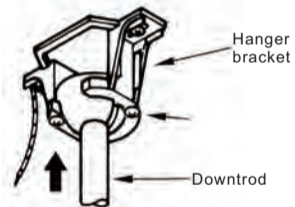

Fig.15
Step 9: Now lift motor assembly into position and place downrod ball into hanger bracket. Rotate until the check groove has dropped into the registration slot and seats firmly. Rod should not rotate if this is done correctly(Fig.15)